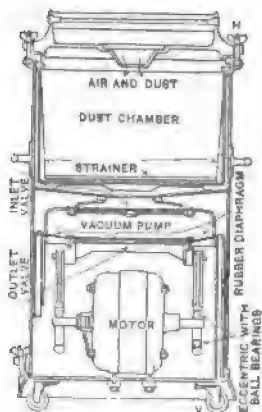

FIG. 82.— Vacuum cleaner.
89. Applications of the vacuum pump. Vacuum cleaning (Fig. 82) is an application of the force of suction, created by a vacuum, to the cleansing of buildings and their furnishings. Some vacuum cleaners are portable and some are stationary, some are operated by hand and some by an electric motor, some tend to produce a vacuum by a pump and some by a rotating fan, but the general principle is the same in all.